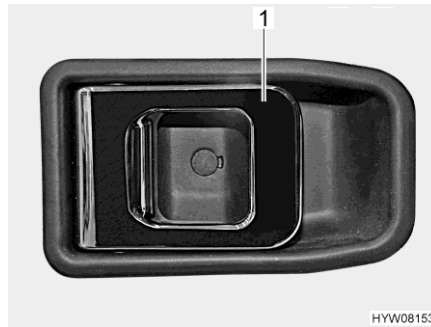

Fig. 43 Door lock (driver's door, inside)
- Opening:** ■ Pull on the handle (Fig. 43,1). The door lock is unlatched or opened.
- Locking:** ■ Push the handle (Fig. 43,1). The door lock is locked.